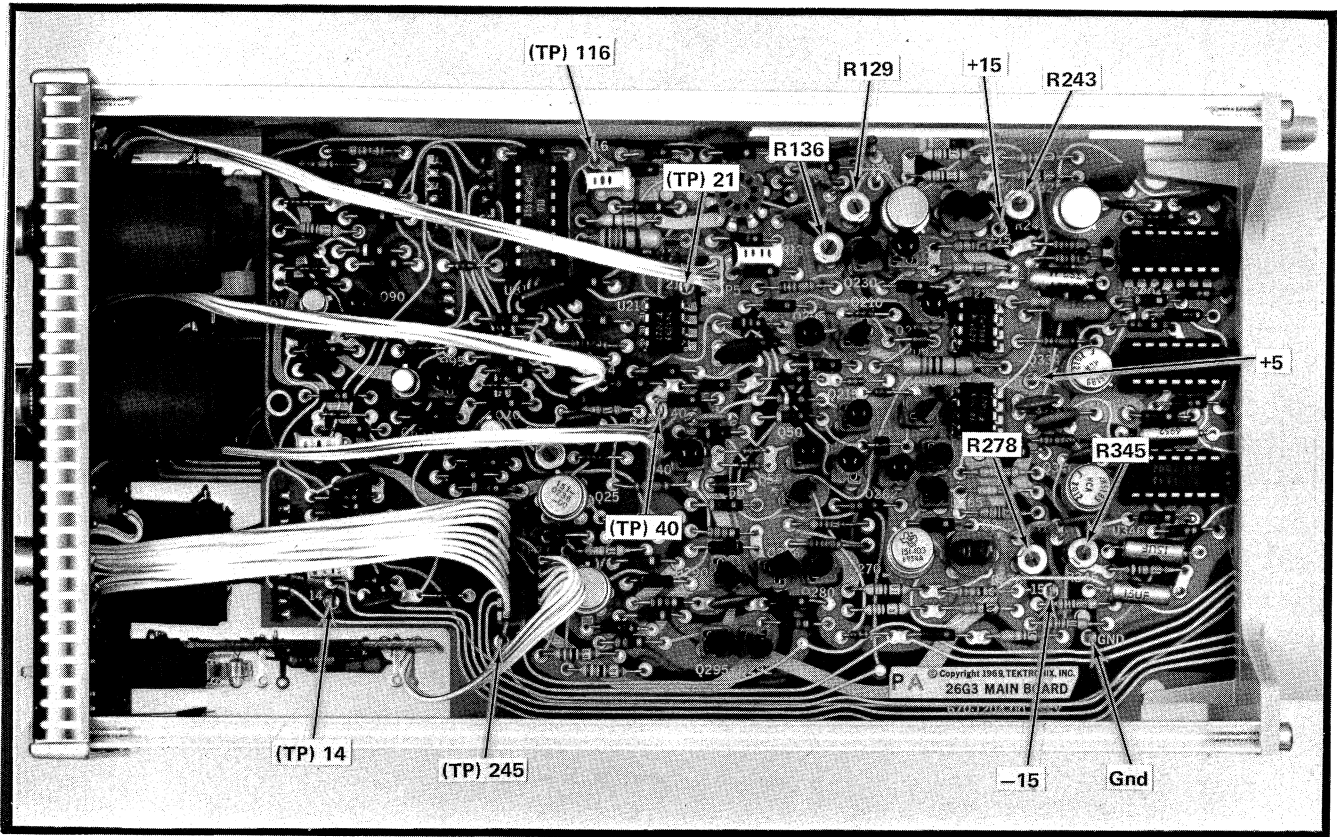
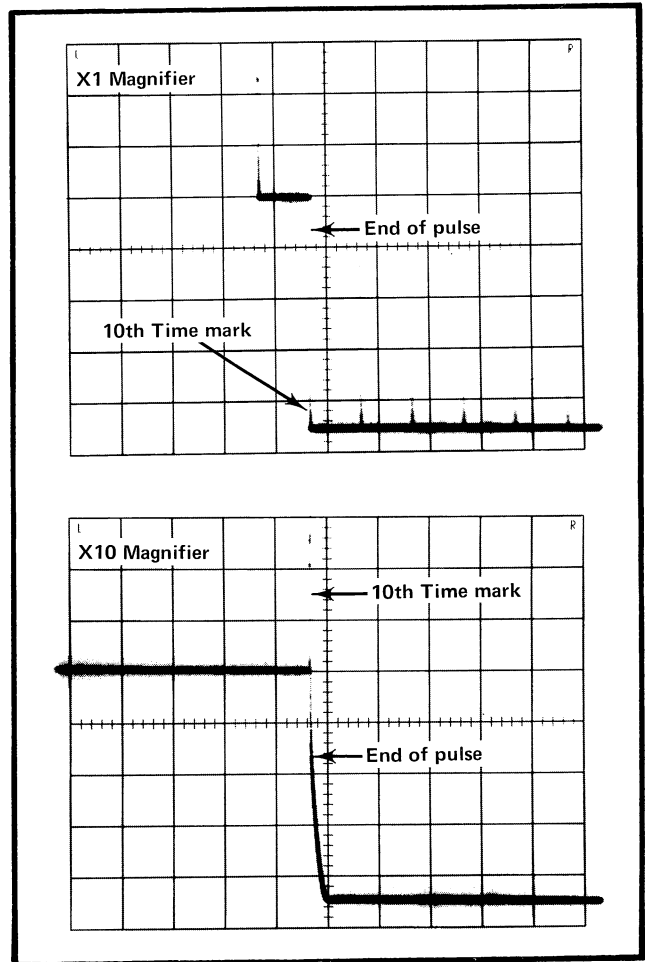

Fig. 5-3. Location of Test Points.
Fig. 5-4. Typical display of Pulse and Time Marks for setting X1 Pulse Duration.
1. Adjust -15 Volt Supply (R345) ❶
a. Connect a 1X probe from Differential Comparator +Input to 26G3 -15 volt Test Point (location shown in Fig. 5-3). Ground probe at Gnd Test Point in 26G3 (UUT).
d. Adjust Time Base trigger and position for display shown in Fig. 5-4.
f. ADJUST—R129 (see Fig. 5-3 for location) for exact coincidence of end of pulse with 10th time mark (see Fig. 5-4).
c. ADJUST—R136 (see Fig. 5-3 for location) to position the end of pulse exactly to the tenth time mark.